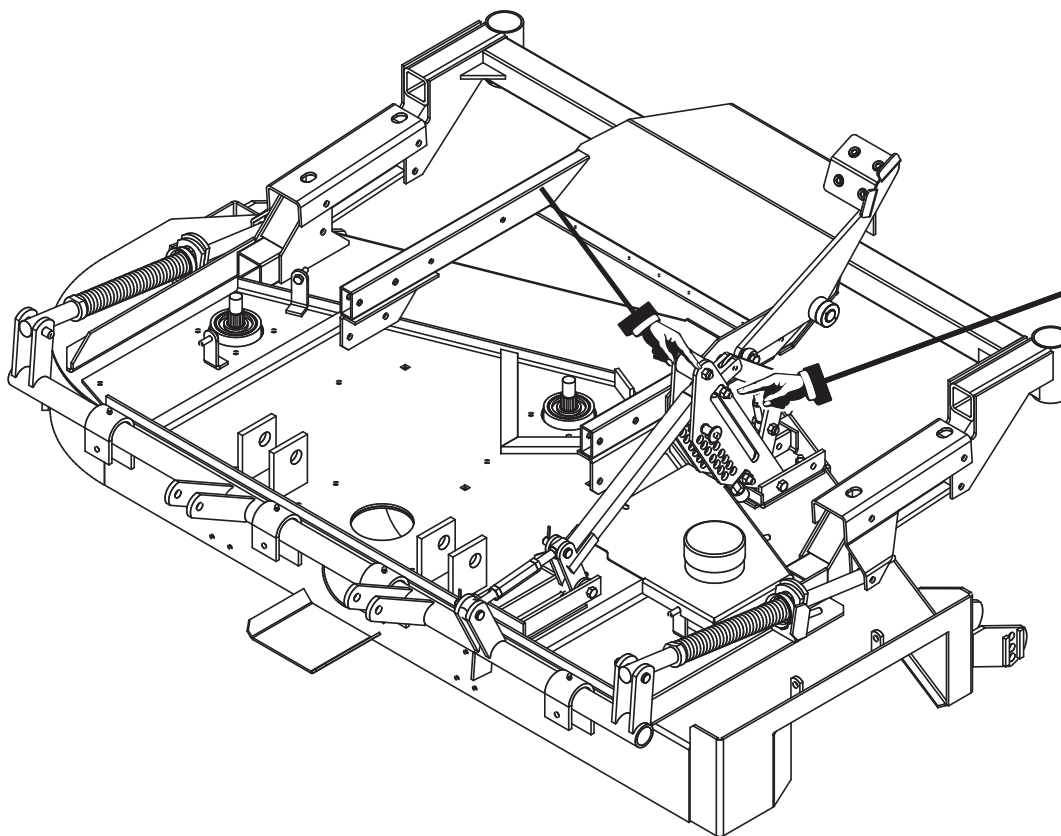

FIG 10
- A. After everything has been assembled, make certain the height bracket assembly is properly aligned by simply loosening the bolts shown in Fig. 10 and re-tightening them being careful not to over-tighten them.